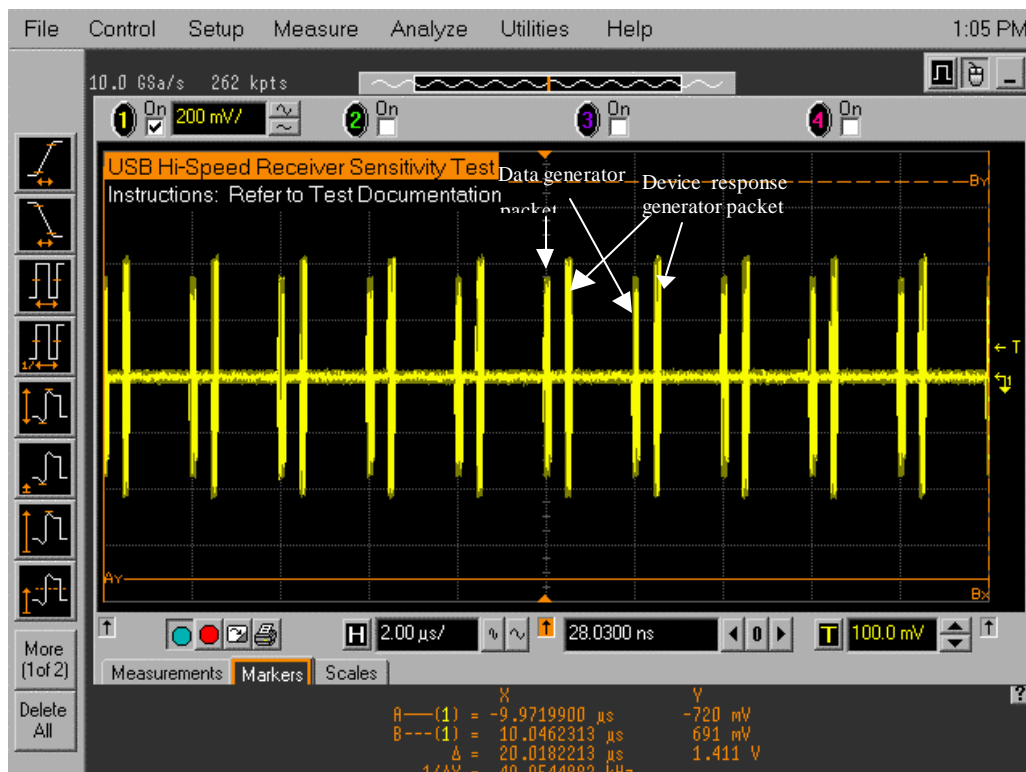

Figure 30. Receiver Respond with NAK to IN from Data Generator
- a. The oscilloscope should look like Figure 30.